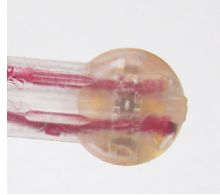

Figure 33: Wires in gel cap
- Insert the wires from each cable end as far as possible into the gel cap. See Figure 33: Wires in gel cap.